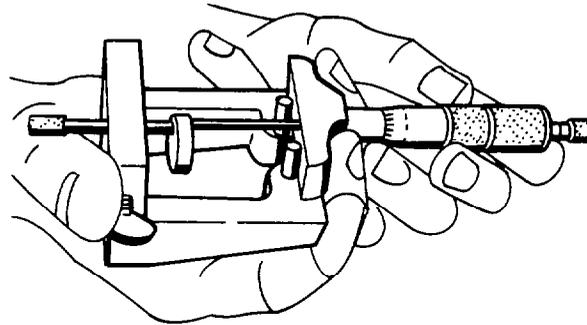

Fig. 124 — Measuring Distance to Determine the “K” Dimension
- p. Use a depth micrometer to measure the distance between the top front side of the dowel pins and the footed pin on the dimension tool (see fig. 124). This is the “K” dimension.